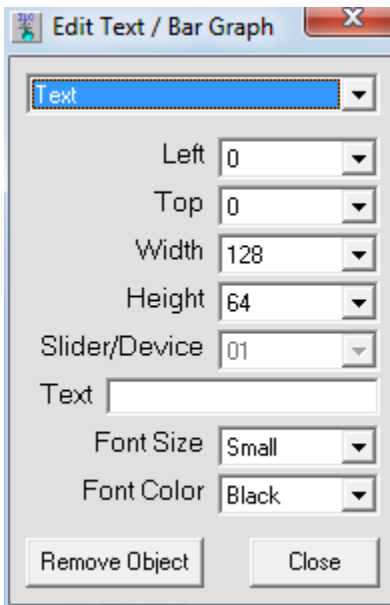

Figure 11 Text / Bar Graph Caption Properties Box
2. From the pull-down menu select "Text" as shown in Figure 11.